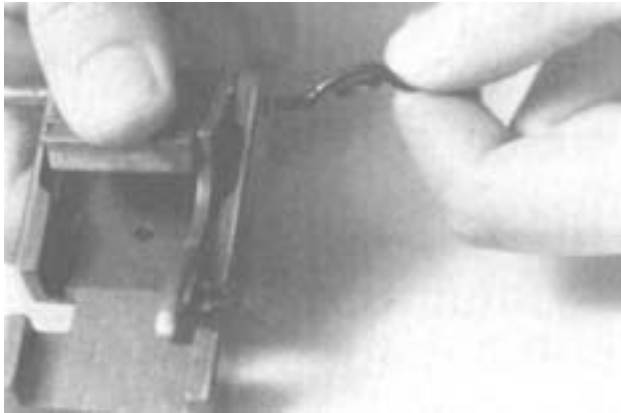

Figure 4-41. Drifting Out the Belt Feed Pawl Pin.
- Drift the belt feed pawl out, maintaining pressure on the belt feed pawl to prevent the spring from flying out. Use any available punch or M2 .50 cal combination as shown in figure 4-41.